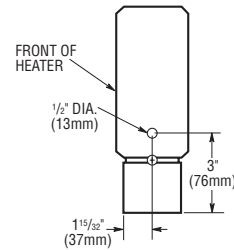

Figure 9. End Cap Drill Pattern
- Connecting power supply cables may be routed from heater to heater by drilling a 1/2-inch (13mm) diameter hole in the end caps for the heaters that fit together. See Figure 9. To prevent possible damage to internal heater wiring, all drilling of end caps must be done with end caps removed from heater.